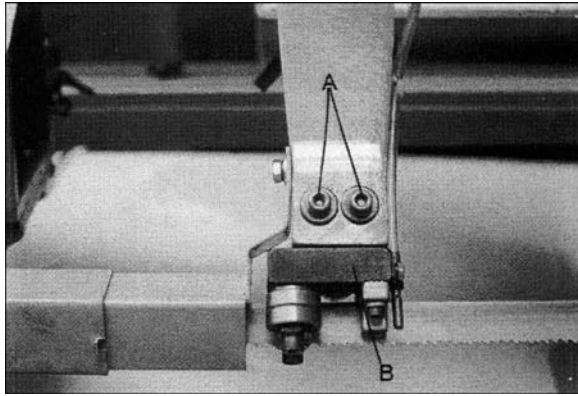

Figure 9
- Loosen two hex socket cap screws (A, Figure 9). Note: Left guide roller has two hex socket cap screws; right guide roller has one (HBS-916W only). The HBS-1018W has two screws on each guide.
- Move guide seat (B) up or down until a clearance of .003" to .005" between back of blade and thrust roller is obtained.
- Tighten two hex socket cap screws (A).